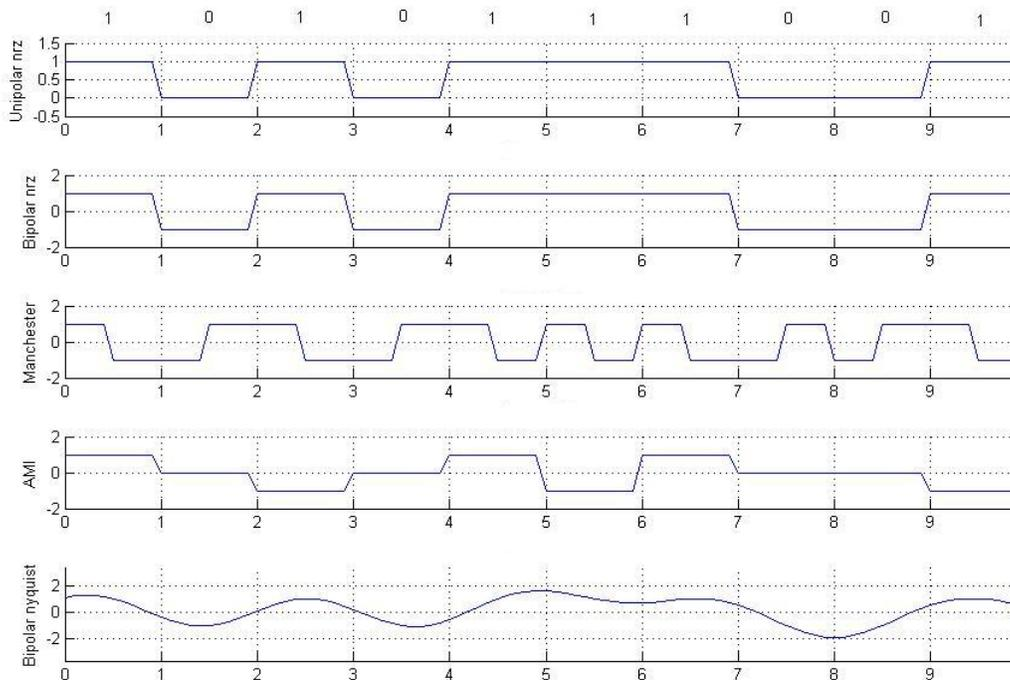

Figure 2. Line code waveform examples. Original binary sequence listed across the top is at a bit rate of 1, and applies to all codes.
The type of line coding is selected to meet various system criteria, such as power requirements, bit timings (additional transitions of the line code signals within the bit interval can help in timing recovery), bandwidth efficiency (excessive transitions may require more bandwidth than available), low frequency content (some channels block low frequency), error detection, and complexity. Figure 2 shows analog waveforms for various line coding examples.
1. Use the `modulb()` function to plot waveforms (similar to those in Fig. 2) representing the binary sequence $seq = \{0,1,0,0,1,1,0,0,0,1,1,1,0,0\}$ using the following line codes at a bit rate of $R_d = 1 \text{ kb/s}$ (choose a reasonable sampling rate for plotting the waveforms):